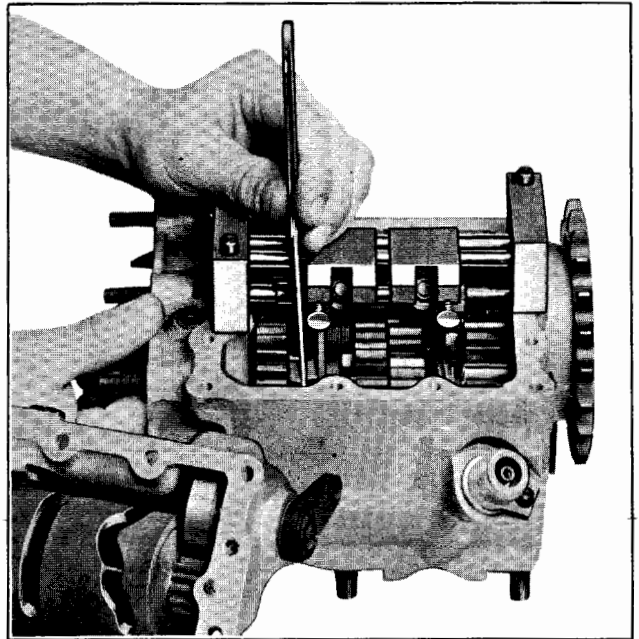
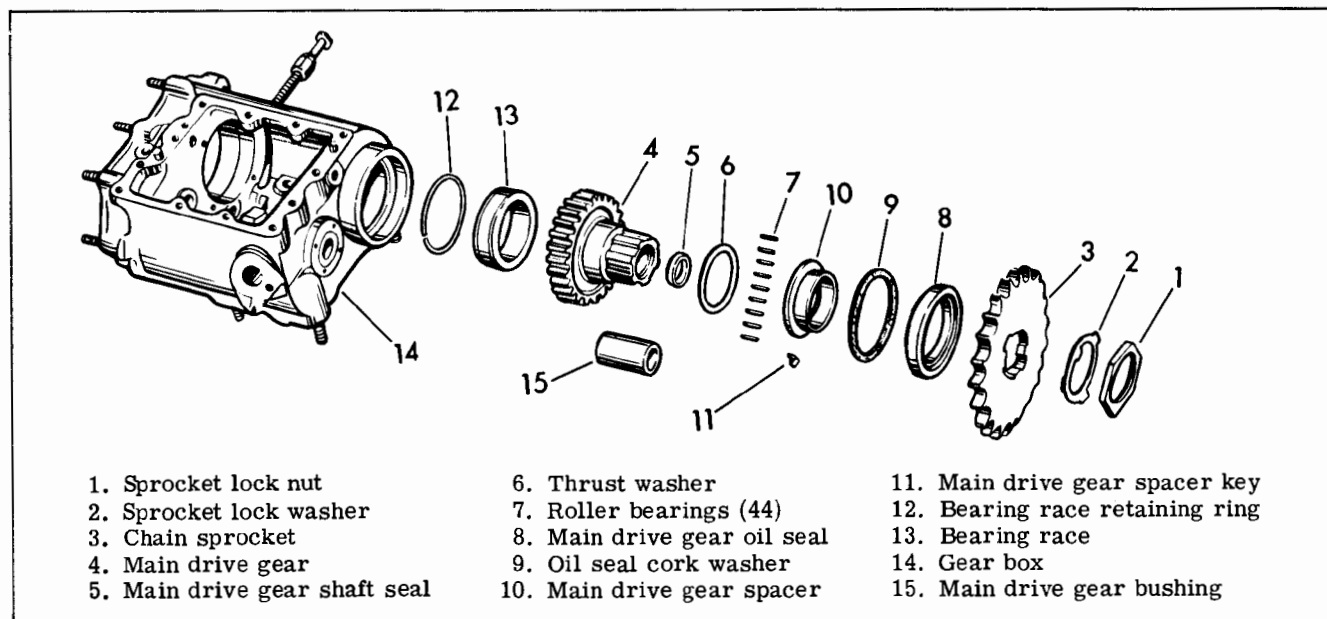

Figure 4-17. Checking Shifter Clutch Clearance
Figure 4-20 Main Drive Gear - Exploded View
Remove tool from cover, turn it over, and place it on transmission case with shifter fingers engaged in slots on gauge blocks as shown in Figure 4-17. Be sure shifter finger rollers are in place on shifter fingers.
DISASSEMBLING MAIN DRIVE GEAR (Figure 4-20)
To install main drive gear bearing race (13, Figure 4-20), heat case to about 300 degrees and press out old race with arbor press after removing bearing race retaining ring (12). Reheat case and press in new race until flange is seated against case. Install new bearing race retaining ring.
Check bearings (7, Figure 4-20 and 19 and 23, Figure 4-17) for proper fit in races according to tolerances shown in "Transmission Specifications." Replacement rollers are available standard, .0004 in. and .0008 in. oversize.
ASSEMBLING MAIN DRIVE GEAR (Figure 4-20)